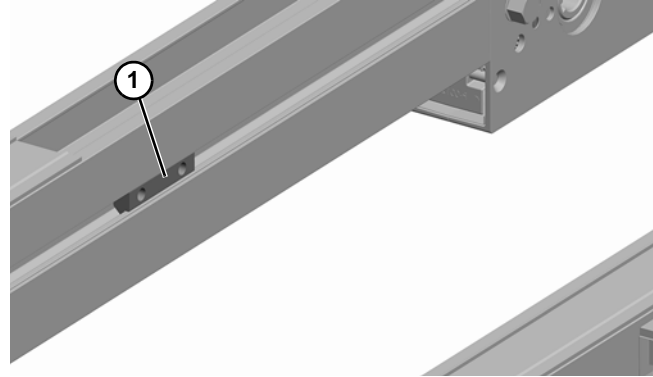

Figure 79
1. Install drop-in tee bar (Figure 79, item 1) in conveyor rail channel. Repeat for opposite conveyor rail.